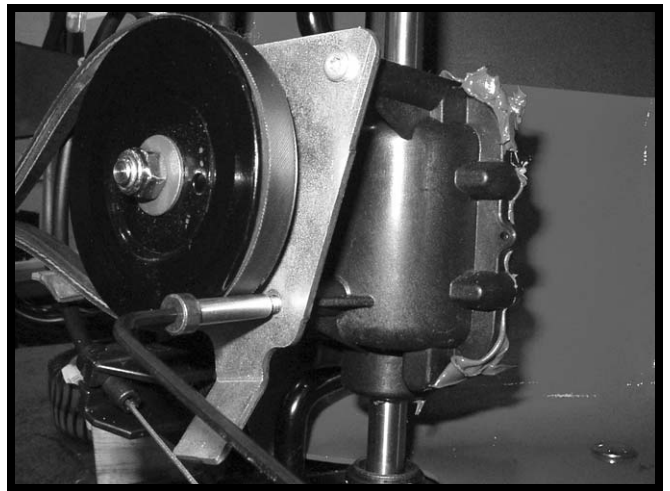

FIGURE 7
17. Place drive belt onto the transmission pulley as shown in Figure 7.